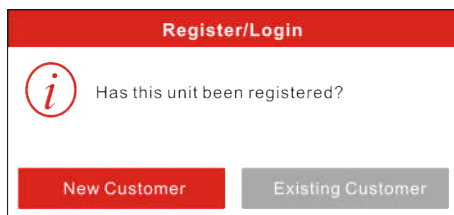

Fig. 4-2
- A. If you are a new user and want to register your tool directly, tap “New Customer” in Fig. 4-2 to start your sign-up.
B. If you have registered to be a member, tap “Existing Customer” in Fig. 4-2, a screen similar to the following appears: